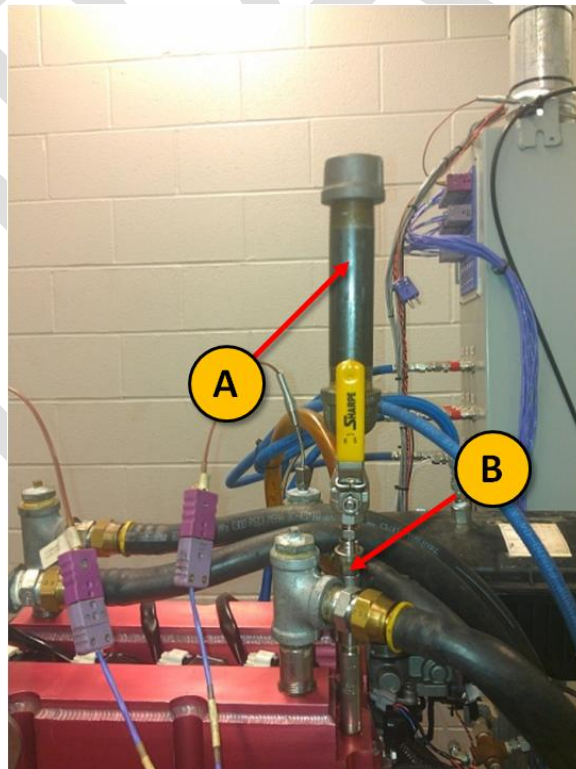

Figure 16. Oil return device (A) connected to the crankcase pressure sample port (B)
- 5.5. Refer to Figure 16. Connect the oil return device to the crankcase pressure port located on top of the valve cover.